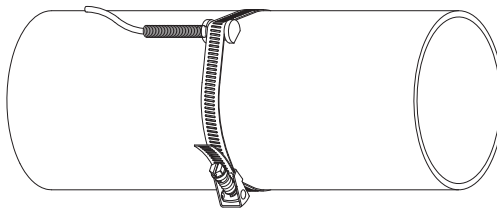

Fig. 9.3: Temperature probe on the pipe
- Position the temperature probe on the pipe (see Fig. 9.3).
- Insert the tension strap through the parts (2) and (1) of the clasp.